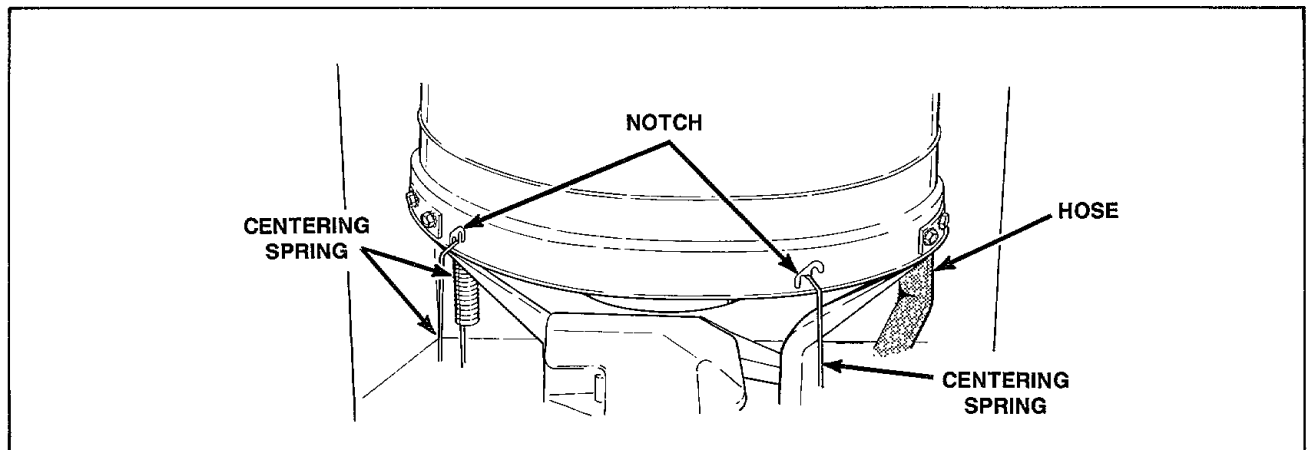

Figure 46
- n. Using the No. 229P4 Spring Hook Tool, unhook the five centering springs from lower edge of outer tub, *Figure 46*.
- i. Using the No. 229P4 Spring Hook Tool, unhook the five centering springs from the lower edge of outer tub, *Figure 46*.